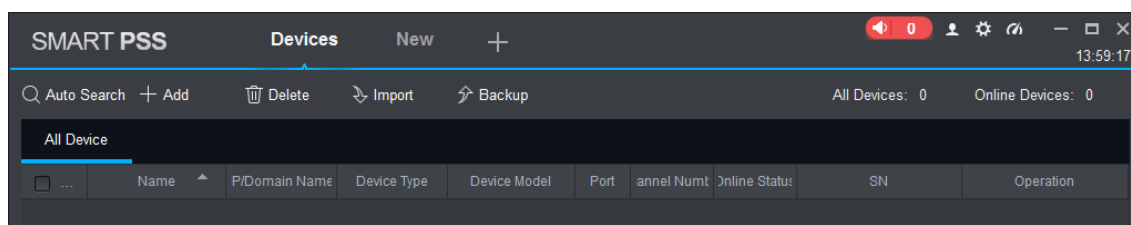

Figure 4-1
Step 1 In “Devices” interface, click “Auto Search”, as shown in Figure 4-1.